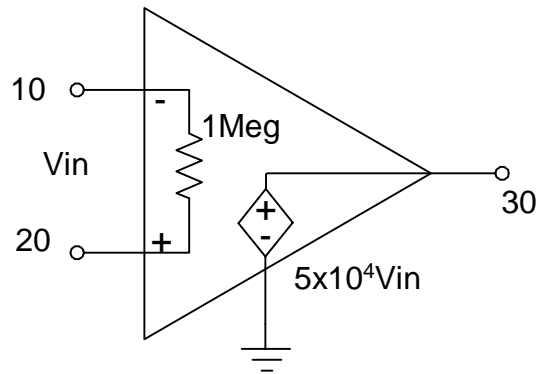

Figure 2
2. Using SPICE simulate the different configurations and submit the output waveforms for each case. For the SPICE simulation there are two ways for simulating the operational amplifier. In the first, the op-amp is simulated using the simplified model of Figure 2 which consists of an input resistance and a voltage controlled voltage source. This simplified model for the op-amp is fairly good at this stage. At this point it may be useful to introduce to you the concept of SUBCIRCUIT. In many circuits we may use more than one op-amp. In this case we have to replace each op-amp by its equivalent circuit. This may require a long input file if we have a large number of op-amps in our circuit especially if the op-amp is modeled using more sophisticated models than the one shown in Figure 2. One way to avoid this is to use the concept of SUBCIRCUIT in which the model of the op-amp is written only once and then recalled whenever necessary. The format of the first line of a subcircuit definition is